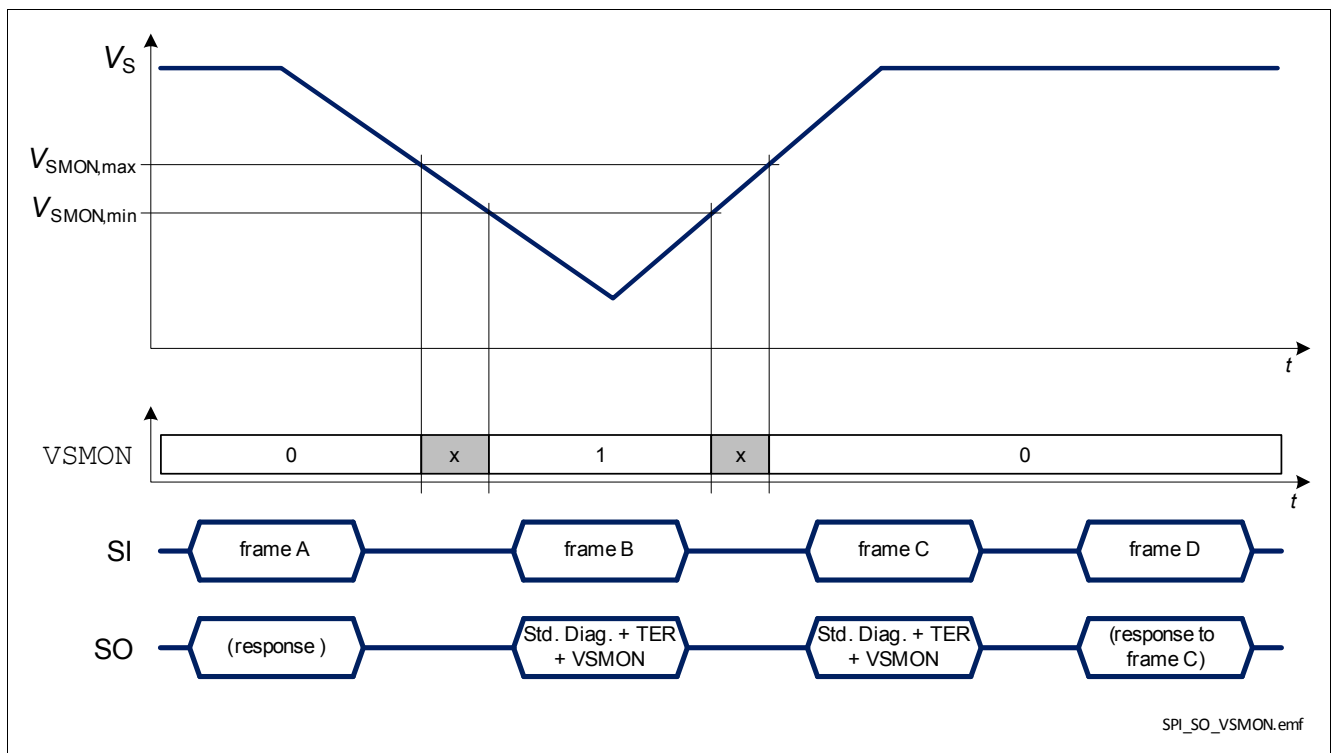

Figure 35 BTS56033-LBA response in case of a negative battery voltage transient
- when $V_S < V_{\text{SMON}}$ and $\text{DCR.MUX} \neq 111_{\text{B}}$, as shown in Figure 35